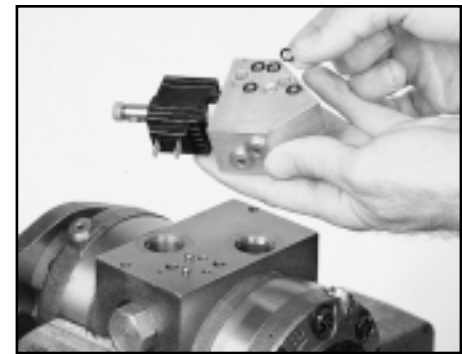

Figure A22
2. Place 5 O-rings (16) in the grooves on the solenoid block (17). SEE FIGURE A22